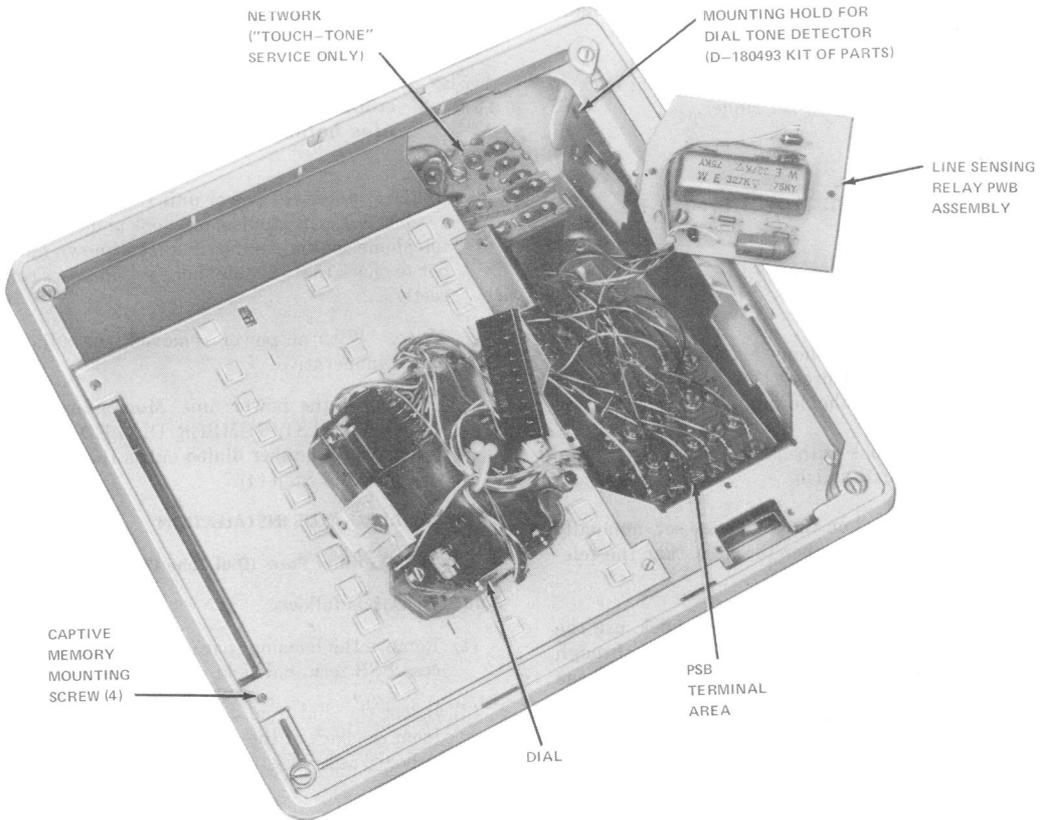

Fig. 3—2870B1M Dial, View to Show Terminal Area
(1) Remove the housing (paragraph 3.13), and access PSB terminal field (paragraph 3.10).
(2) Insert the dial tone detector board assembly from the back of the dial, so that the two tabs on the board assembly fit into the slots in the chassis (Fig. 3).
(3) Insert the self-threading screw through the side of the chassis to secure the board in position.
- (4) Connect the dial tone detector as shown in Table B.
- (1) Remove faceplate (paragraph 3.11 or 3.12).
- (2) Loosen the captive screw at the bottom of the cover around the dial and remove the cover.
- (3) Disengage dial from chassis (paragraph 6.05 or 6.06).
- (4) Loosen the four captive memory mounting screws (Fig. 3).